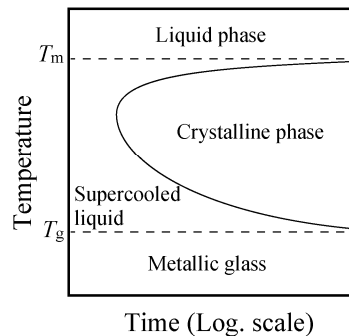

Figure 5
- (1) Figure 5 shows a typical Time-Temperature-Transformation diagram for molten metals. The time required for the crystallization of the supercooled liquid is long at the high temperature range near the melting point (T_m) and at the low temperature range near the glass transition temperature (T_g). Explain the reasons why the long time is required in these two temperature ranges in approximately 30 words each.